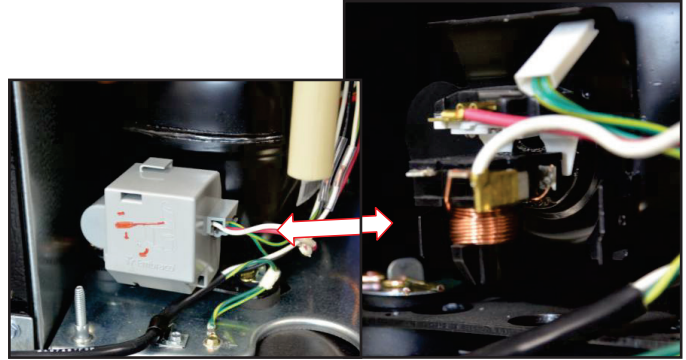

FIGURE 28
- Compressor terminal cover pops off – instructions on cover. See *Figure 28*.